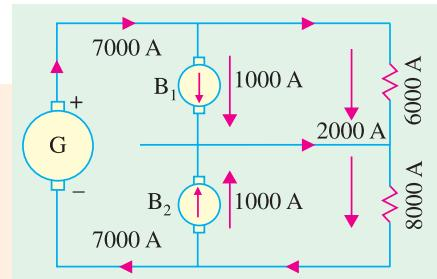

Fig. 40.46
**Solution.** Since negative side is more heavily loaded than the positive side, machine  $B_2$  runs as a generator and  $B_1$  as a motor. The directions of current through  $B_1$  and  $B_2$  are as shown in Fig. 40.46. Total loading on the main generator